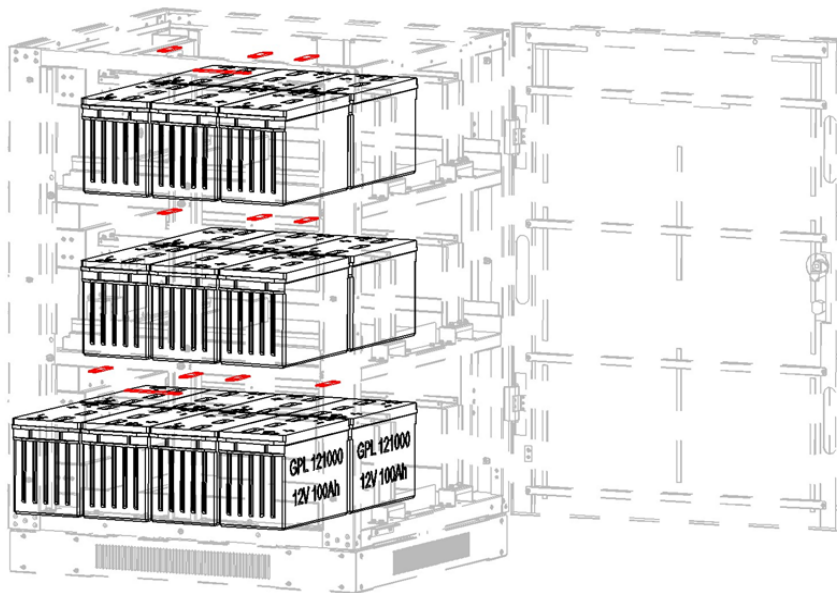

Figure 5-18A
9. Model BP240V100-NIB: Install copper bus bars (12 pieces) between adjacent batteries and the battery insert bolts/screws (Figures 5-18A and 5-18B).